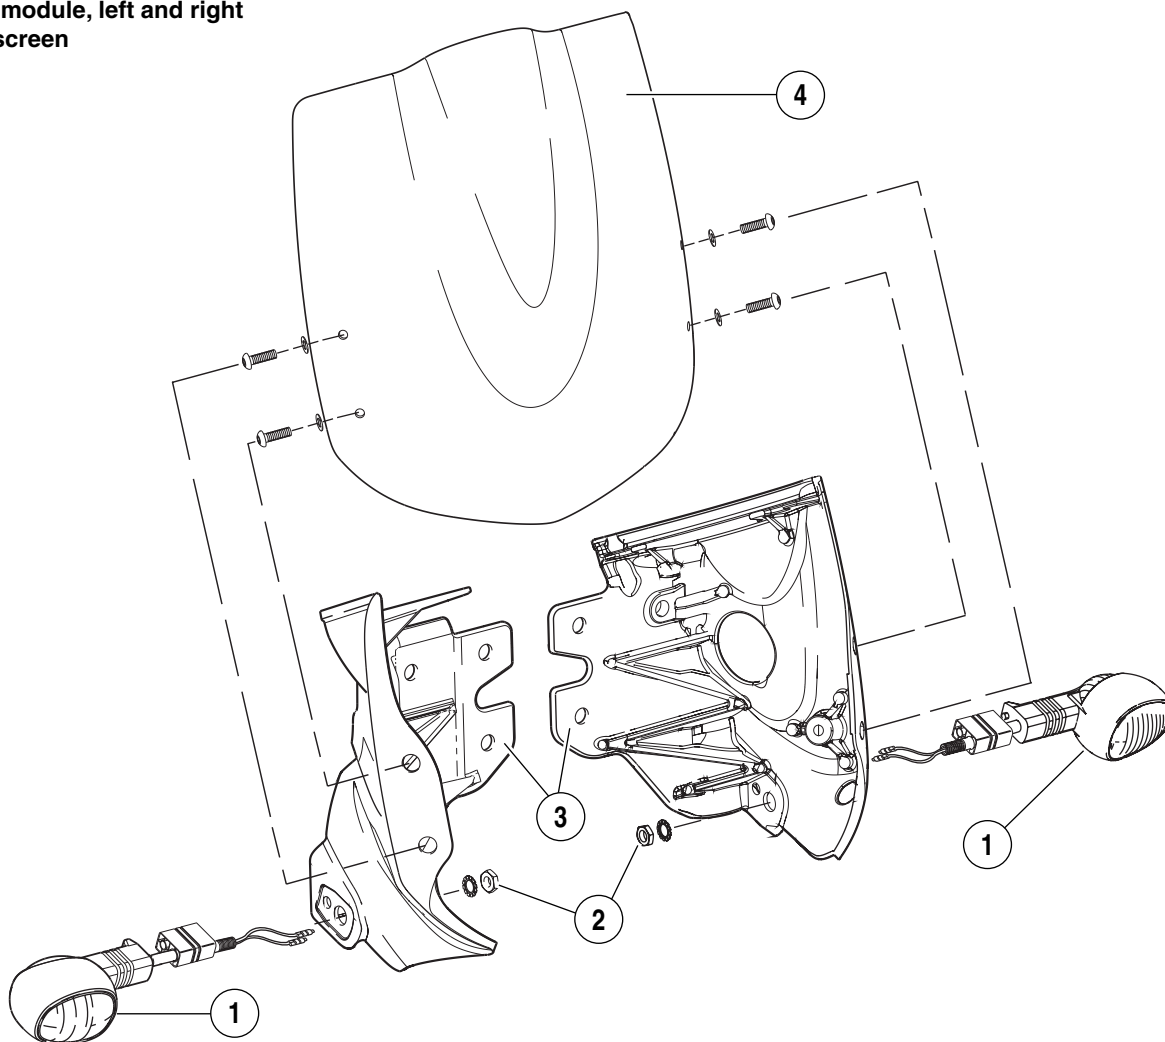

Figure 7-53. Front Turn Signal Removal
3. See Figure 7-53. Remove jam nut and lockwasher (2) from inside of front module (3).
4. Pull bullet connectors and wiring through hole in front module (3) and remove turn signal (1).
1. See Figure 7-53. Insert bullet connectors and wiring through hole in front module.